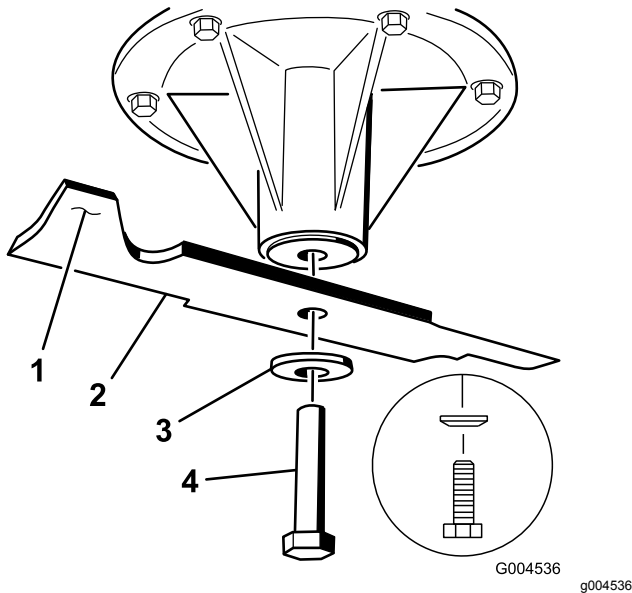

Figure 95
2. Remove the blade bolt, curved washer, and blade from the spindle shaft (Figure 95).
1. Install the blade onto the spindle shaft (Figure 95).
2. Install the curved washer and blade bolt (Figure 95).